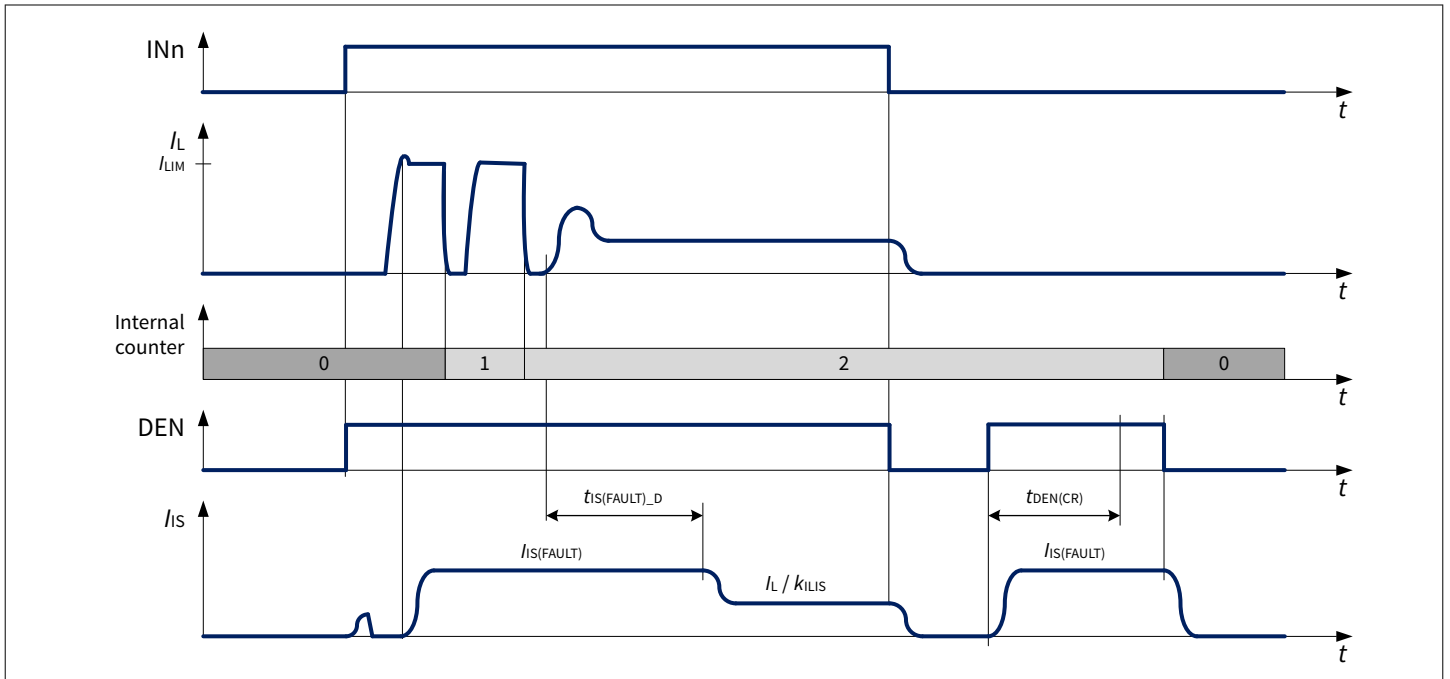

Figure 30 $I_{\text{IS}(\text{FAULT})}$ at load switching
- If the channel is ON and the number of restarts is less than “ $n_{\text{RESTART}(\text{CR}),\text{TYP}}$ ”, the current $I_{\text{IS}(\text{FAULT})}$ is provided for a time $t_{\text{IS}(\text{FAULT})_D}$ after the channel is allowed to restart, and thereafter $I_{\text{IS}} = I_L / k_{\text{ILIS}}$ (as shown in Figure 30). During a restart cycle the current $I_{\text{IS}(\text{FAULT})}$ is provided each time the channel diagnosis is checked.